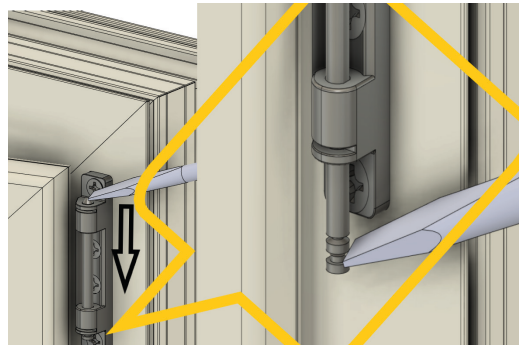

Figure 18
3. One installer supports the weight of the sash. A second installer uses a screwdriver to begin to push the hinge pin down and out. The same tool can be used to finish pulling the pin out from below. Pull the pin until you hear a click. If you pull it all the way out reinsert until you hear a click. (Figure 18)